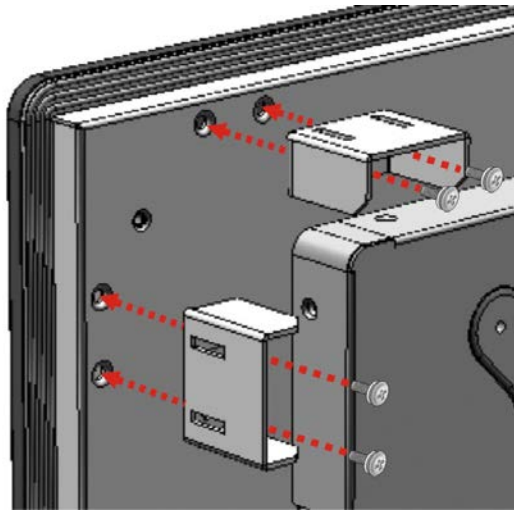

Figure 3-25: Secure the Mounting Clamp Holders
Step 3: Secure the mounting clamps holders to the corresponding holes on the rear of the monitor (**Figure 3-25**).